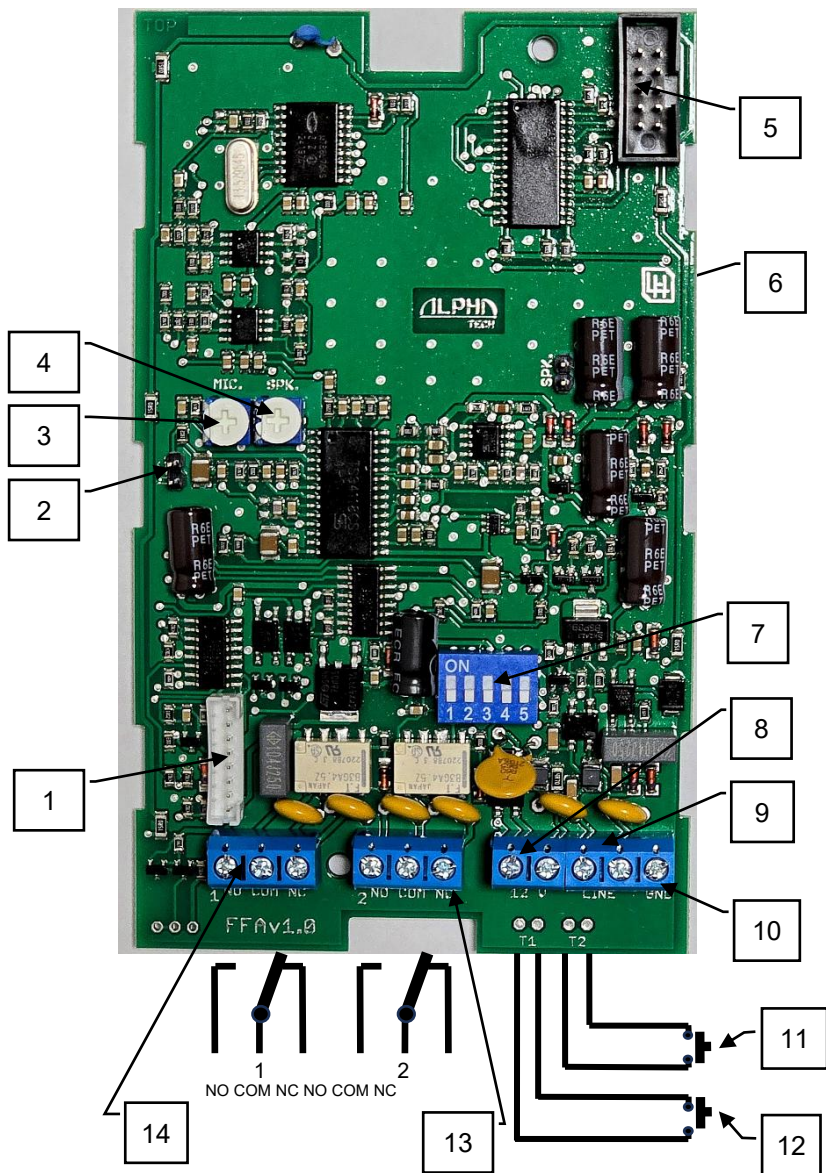

Fig. 1 Basic module of the Fores Bell door communicator
The Bell-8 module is connected to the basic Fores Bell module or to the previous Bell-8 module using the Bell-Kab-8 cable. When connecting, it should be noticed that the basic Fores Bell module has an input (1 in Fig. 1) and the Bell-8 module has an output (2) and an input (3). The output is always connected to the input of the previous module.
Basic function (call establishing and hang up) requires connection of Phone **Line** only- **LINE (9)** on Fig. 1. The line is connected by 2 wires (a,b) and in standby has voltage 24V - 60V, short circuit current 20mA - 60mA. When line is OFFHOOK the voltage is 7V – 10V.
The **Bell-8 module** is connected using the Bell-Kab-8 cable, which is connected between the Fores Bell input (1 on Fig. 1) and the Bell-8 output (2 on Fig. 3). Be careful not to confuse the input and output of the Bell-8 module and the direction of the cabling, always start with the input on the Fores Bell.
For board heating, name shields backlight and relays necessary to connect an external **Power Supply (8)** on Fig. 1. The PSU might be AC or DC polarity doesn't matter. From 12V is max. consumption 250mA. Power supply be used also for electrical lock. For this use is recommended 12V/1A AC. When adding Fores Bell to existing access system or sliding doors, it's possible use 24V power supply but only 24 VDC not 24 VAC!
Relays (13, 14) on Fig. 1 have many ways of usage and examples of connection are on Fig. 5. Relay contacts are galvanically isolated from both the external source and the telephone line. They can switch a voltage of max. 48 V.